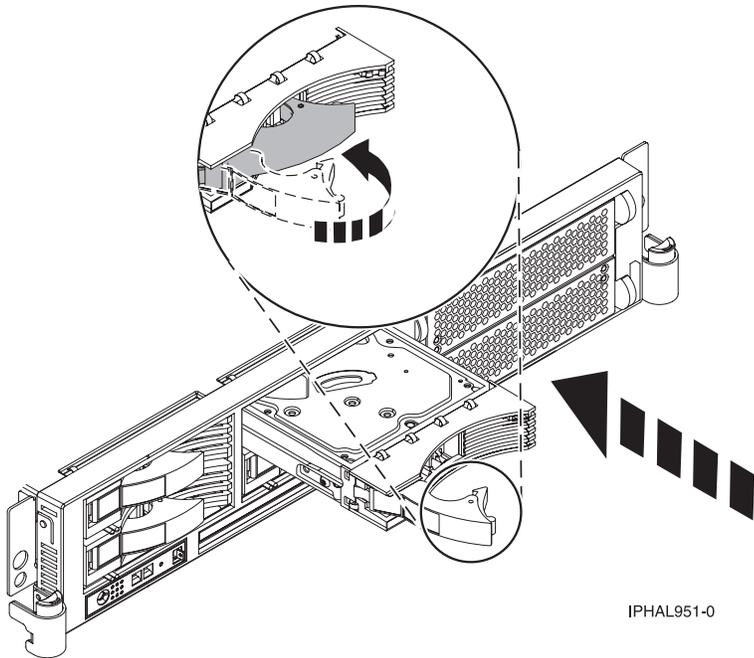
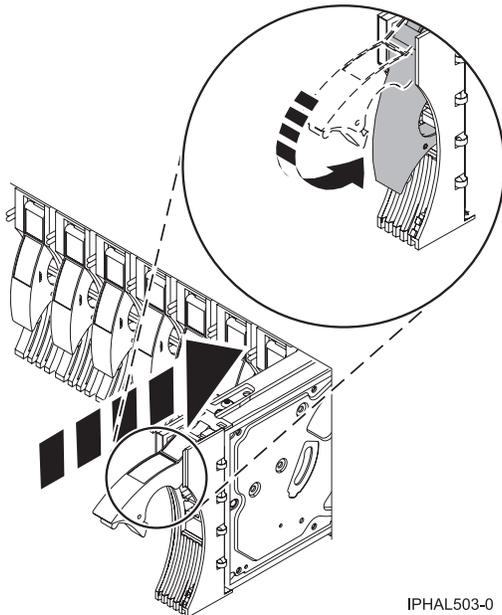

Figure 98. Installing a disk drive in a model 51x or 710
Figure 99. Installing a disk drive in a model a model 285, 52x, 55x, 9116-561, 570, 720, or 7311-D20
- c. Push the disk drive handle in until it locks, as shown in Figure 98 on page 98 or Figure 99 on page 98.